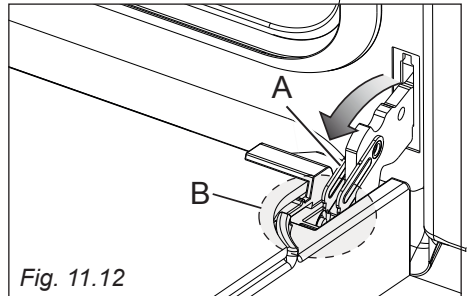

Fig. 11.12
- Open the lever "A" completely on the left and right hinges (fig. 11.12).